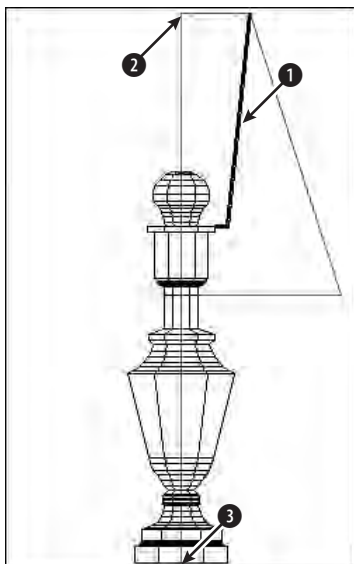

Figure 24-27: A partially completed lamp
2. Save the file as *ab24-07.dwg* in your AutoCAD Bible folder. You see part of a lamp, as shown in Figure 24-27. Make sure OSNAP is on. Set a running object snap for endpoint.
Select objects: *Select the support at ① in Figure 24-27.*